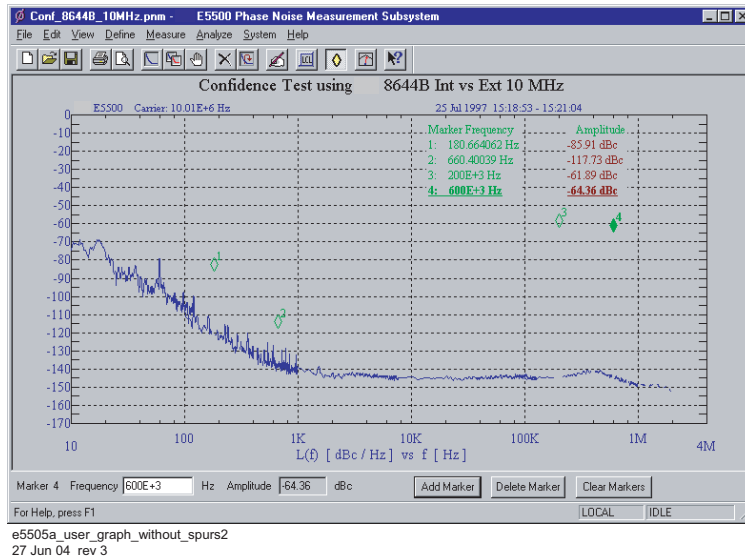

Figure 268 Graph without spurs
- 3 The Graph will be displayed without spurs (Figure 268 on page 333). To re-display the spurs, check **Spurs** in the **Display Preferences** dialog box.